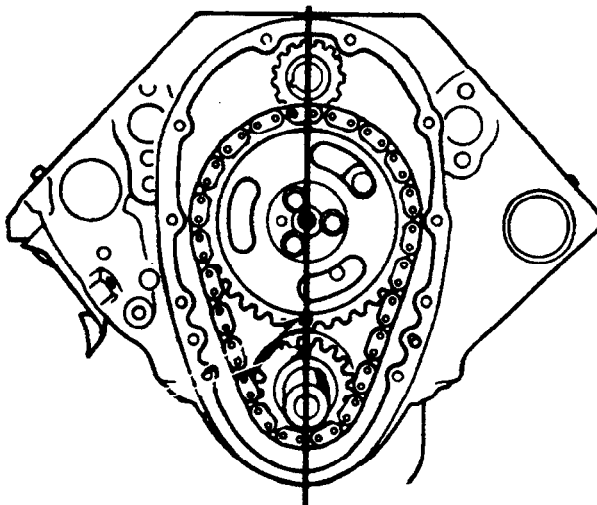

Figure 70 - Camshaft-to-Crankshaft Timing Marks
- Line up the timing marks on the camshaft sprocket and crankshaft sprocket (figure 70).
- The number 4 cylinder is at top dead center of the compression stroke with the timing marks in this position (figure 70).